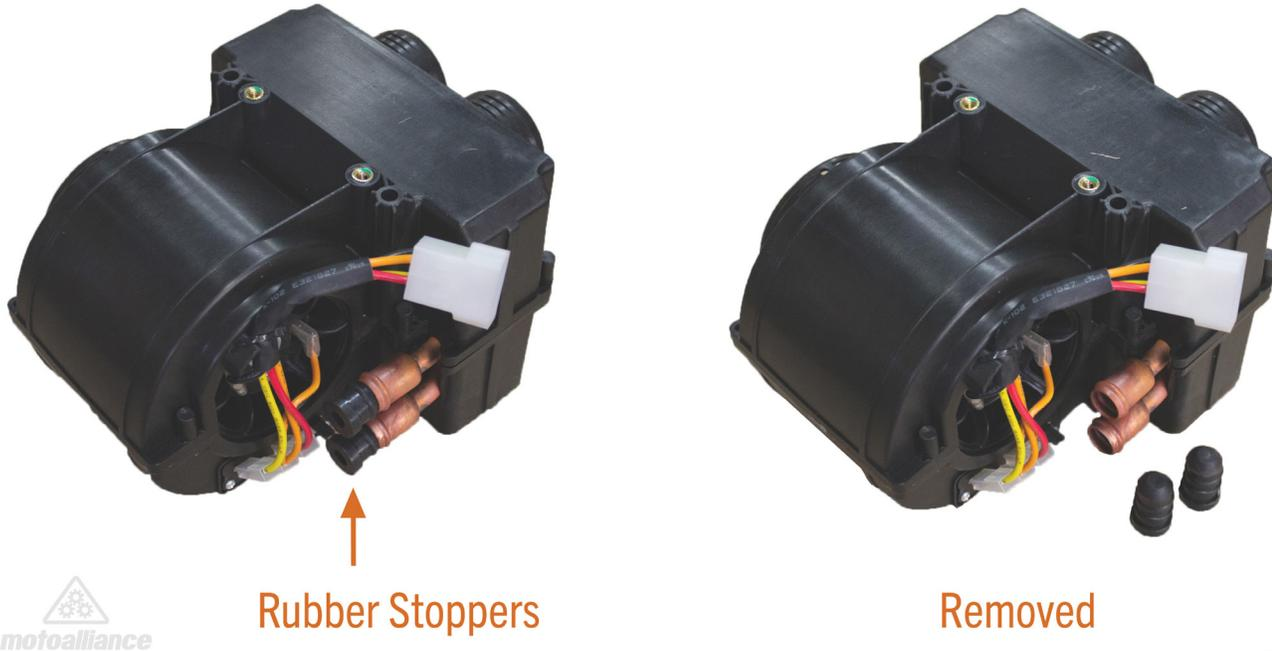

FIGURE 7
14. Use the two 6mm flat head cap screws to attach the heater unit to the included mounting bracket as shown in *FIGURE 7*. Note the orientation of the copper hoses.